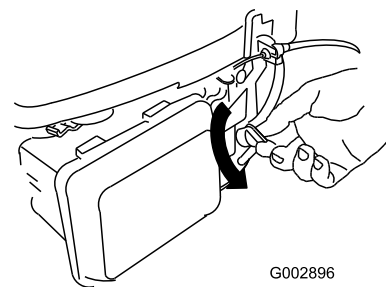

Figure 23
2. Turn the fuel valve lever to the ON position (Figure 23).